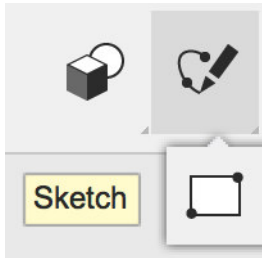

Figure 4-11 Sketch prompt
1. Hover your arrow over the top menu bar until you see the yellow Sketch prompt appear (Figure 4-11).